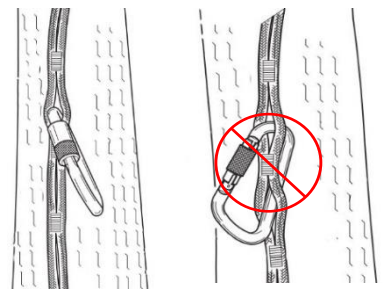

Fig. 4
- ◆ When attaching the carabiner it is critical to capture one side of the double strand rope and not attach the carabiner through the stitched section. The carabiner must only attach through one segmented attachment point on the SuperSaver Rope, never attach through multiple segmented attachment points (Fig. 4).